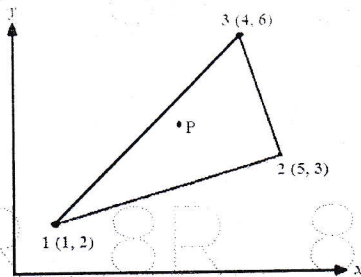

Figure 2
- 6.a) The nodal coordinates of the triangular element as shown in figure 2. At the interior point 'P' the x-coordinate is 3.3 and $N_1=0.3$. Determine N_2 , N_3 and the y-coordinate at point P.